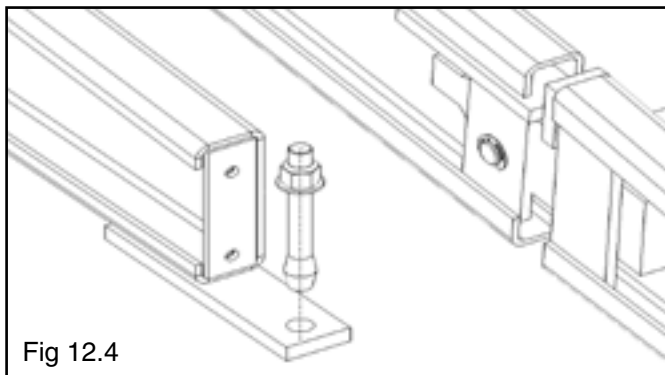

Fig 12.4
5. Assemble the washers and nuts on the anchors then tap into each hole with a hammer until the washer rests against the base. (See Fig. 12.4 - 12.5)